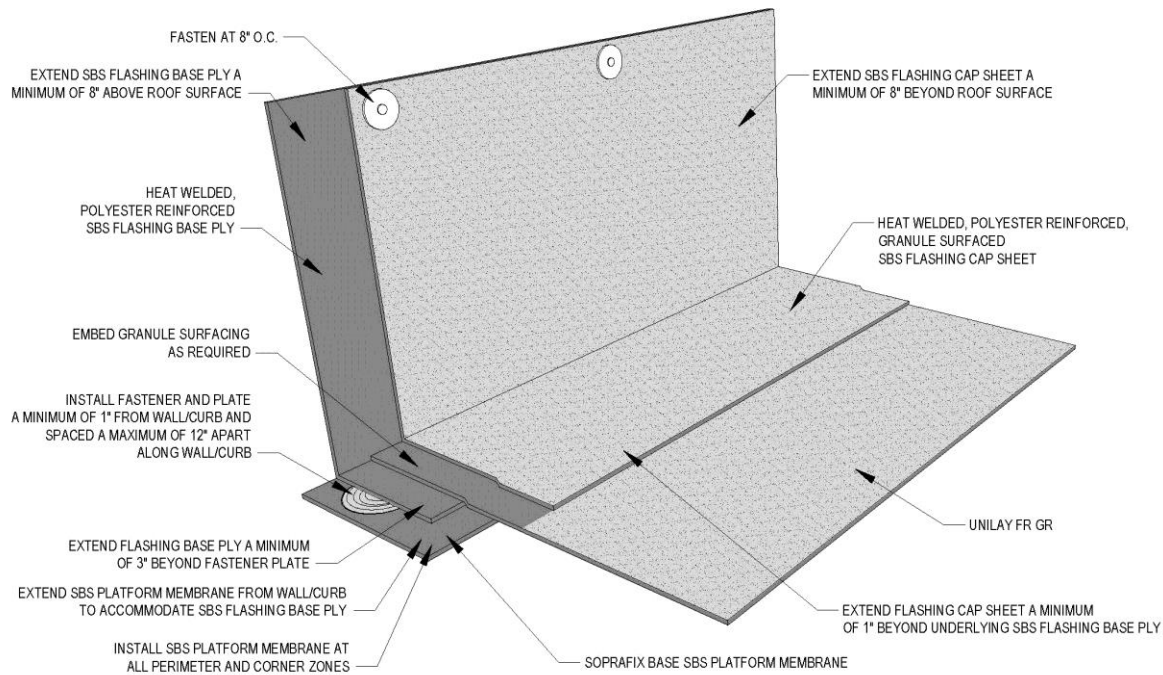

Figure 3.3.2a Mechanically Fastened Single Ply at Wall/Curb Without Cant
- At the end of the platform membrane at roof edges, walls, curbs and penetrations, fasten the end-laps to the deck 12 in on-centers or less. Refer to Figures 3.3.2a through 3.3.2e.